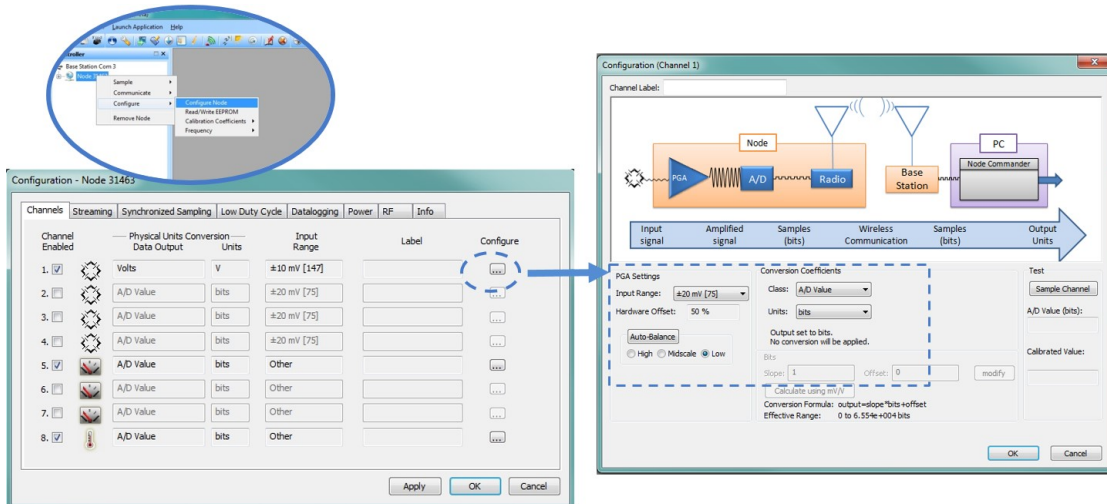

Figure 4 - Channel Configuration Menu
- b. Open the configuration menu for the channel to which the sensor is connected, and use the following settings (*Figure 4 - Channel Configuration Menu*). The conversion coefficients are the units in which the measurements will be displayed. For this step the units are set to A/D bits. The hardware gain and auto-balance settings are determined by the anticipated output range of the sensor, and the node input voltage range (typically 0 to 3 Vdc). In this example, the expected maximum output of the sensor is 20 mA. Using Ohms Law across the sampling resistor, the maximum output voltage can be determined ($20 \text{ mA} * 1\Omega = 20 \text{ mV dc}$). Selecting the +/- 20 mV [75] input range setting provides a 40 mV window for the sensor measurements, which effectively scales the sensor output to the node input (maximizing resolution) but does not come close to exceeding the input limits. Additionally, setting Auto-Balance to low offsets the no-current output at the low end on the node input range, which is appropriate for positive going measurements. For more information and examples on selecting these settings, refer to the node's user manual.